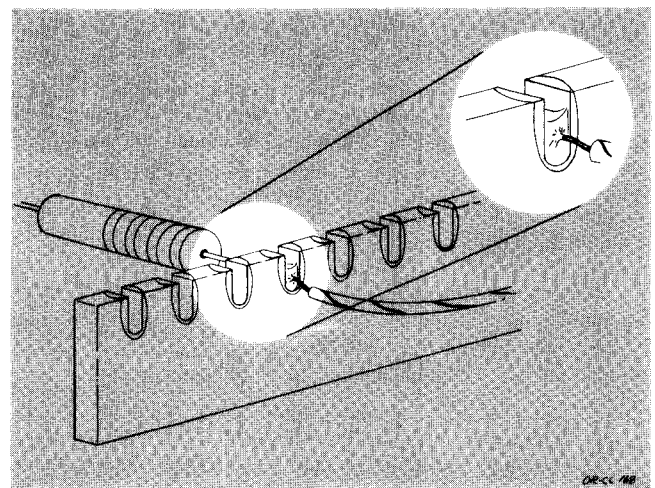

Fig. 5-4. A slight fillet of solder is formed around the wire when heat is applied correctly.
6. Do not attempt to completely fill the notch on the strip with solder; instead, apply only enough solder to cover the wires adequately, and to form a slight fillet on the wire as shown in Fig. 5-4.